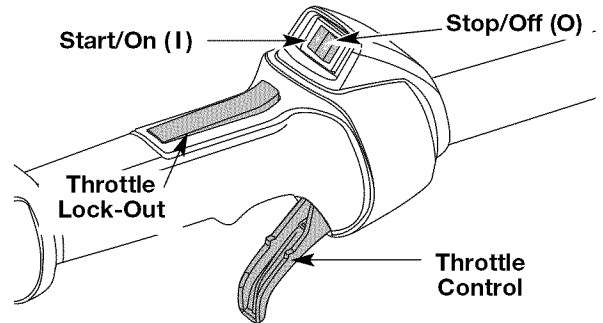
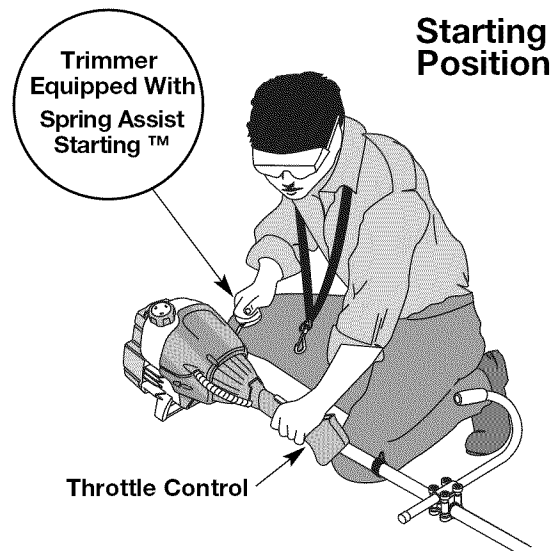

Fig. 19
Fig. 21
**WARNING:** Avoid accidental starting. Make sure you are in the starting position when pulling the starter rope (Fig. 21). To avoid serious injury, the operator and unit must be in a stable position while starting.
**NOTE:** There is no need to turn the unit on. The On/Off Stop Control is in the ON (I) position at all times (Fig. 19).
4. Crouch in the starting position (Fig. 21), squeeze the throttle lock-out and throttle control (Fig. 19), and pull the starter rope out with a **controlled and steady motion** 5 times.
2. Press and hold On/Off Stop Control in the OFF (O) position until engine comes to a complete stop (Fig. 19).